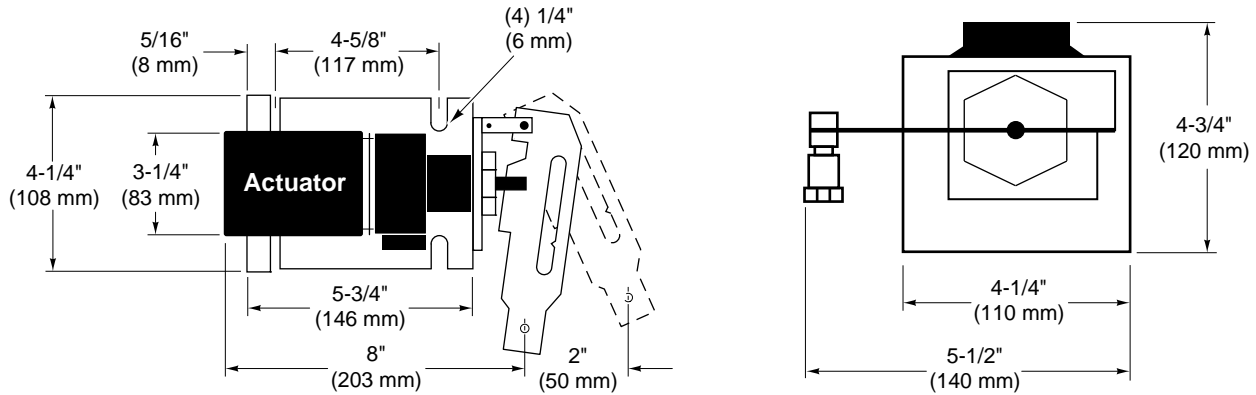

Figure-21 Damper Linkage Assembly Dimensions.
- b. Be sure to allow adequate working space around the actuator mounting location to mount the actuator, link it to the damper, and wire it into the system (refer to Figure-21).
2. Position the actuator on the duct and mark the location of the mounting holes, using the actuator mounting bracket as a template (refer to Figure-21).